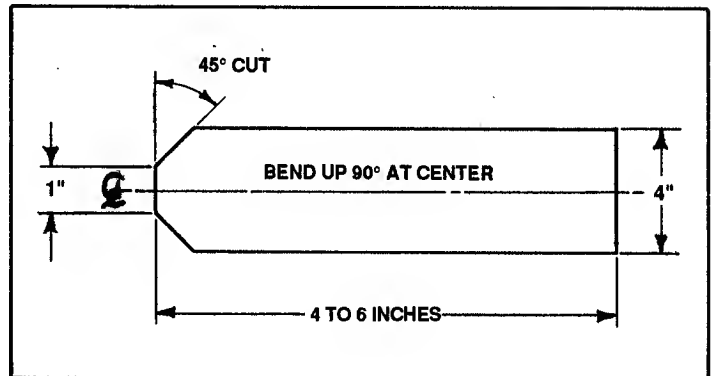

FIGURE 17
3. Fashion an Oil Drain Trough from metal or cardboard as shown in Figure 17.